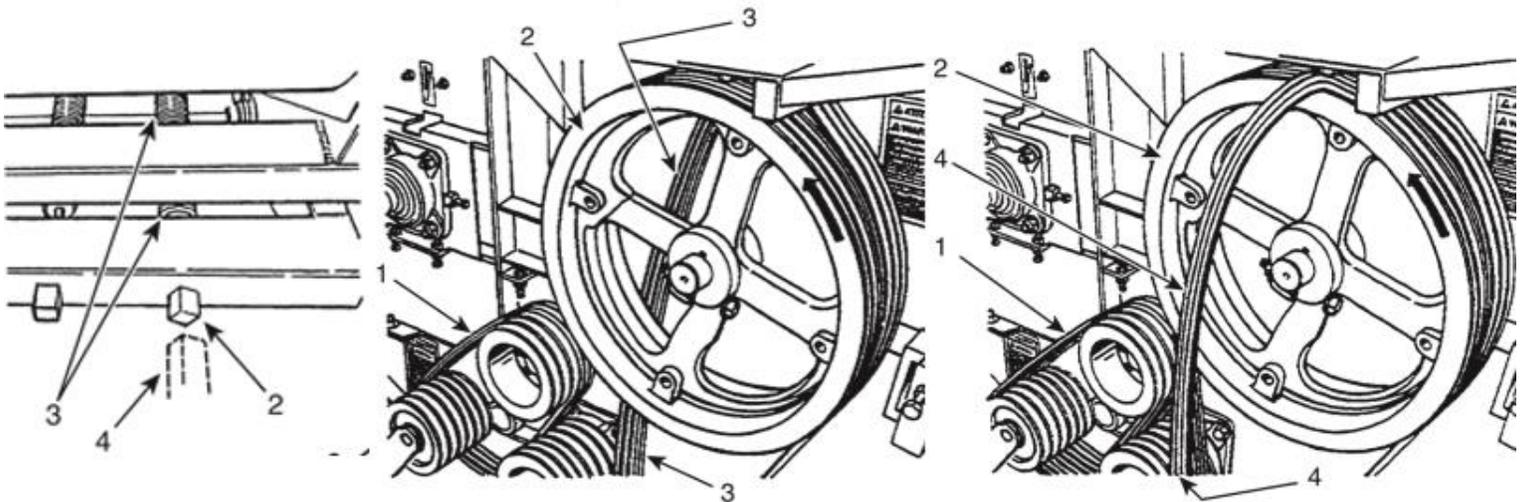

Figure 26 Belt Installation
### STEP 8 - FIGURE 26
Start on the drive pulley side between the drive pulley and the machine body always rotating counter clockwise as shown in Figure 26 Belt Installation. First install belt #4, #5 and end with #6 (item 3).